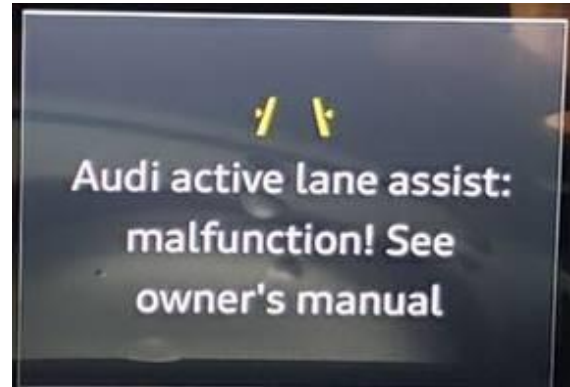

Figure 1. Example of a message.
- “Audi Active Lane Assist: malfunction!” (Figure 1).